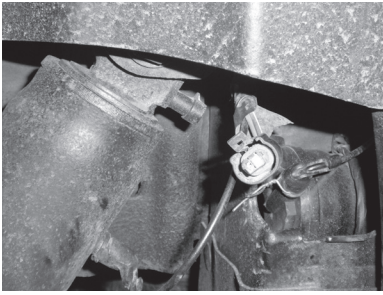

FIG. 3
10. (FIG. 3) Remove the air line from the shock by separating the clip and pull straight out. Prevent dirt from entering the end of this air line.
11. (FIG. 3) Disconnect the electrical connector for the electronic ride control from the rearward portion of the shock.